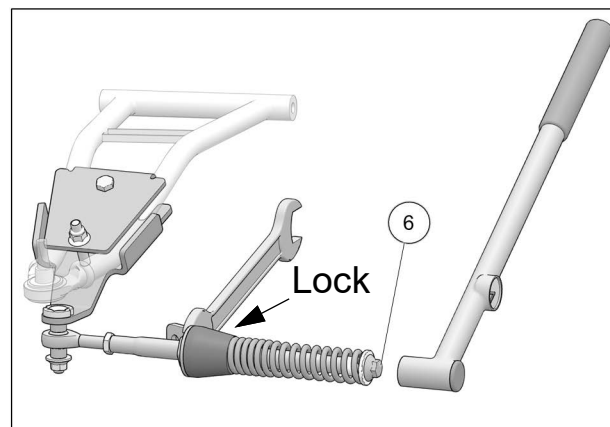

Fig. 24
10. Verify that spring assembly bolt (**6**) is tightened to the recommended torque specification: 75 Nm [55lb•ft]. Make sure to lock in position, the large nut in front of the rubber cone damper. Refer to Fig. 24